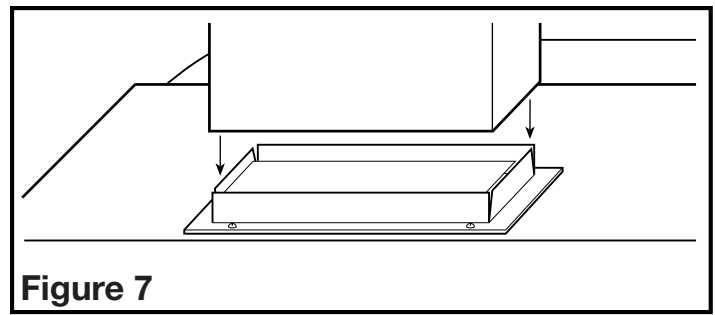

Figure 7
1. Connect the ducting to the hood's duct collar. Ensure duct joints and exterior penetrations are sealed with caulk or other similar material to create an air-tight path to minimize building heat loss or gain and to reduce the potential for condensation. Place/wrap insulation around duct and/or fan in order to minimize possible condensation buildup within the duct, as well as building heat loss or gain (Figure 7).